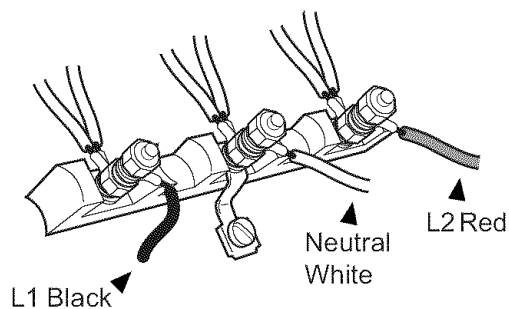

Figure 12: 3 Wire Connection
Wiring for the unit is to be brought into the junction box through the conduit. The ends of the wiring must have 1/4" faston closed-loop lugs attached, preferably soldered in place. Make the connections to the terminal block provided. Secure the ground lead to the junction box with the screw previously used to secure the ground strap. Refer to Figure 12. The free end of the conduit must be connected to a junction box provided in the gas and electrical supply zone, as shown in Figure 3a on Page 9.
2. Secure the neutral, grounded wire of the supply circuit, to the center stud of the terminal block with nut. (See Figure 12).